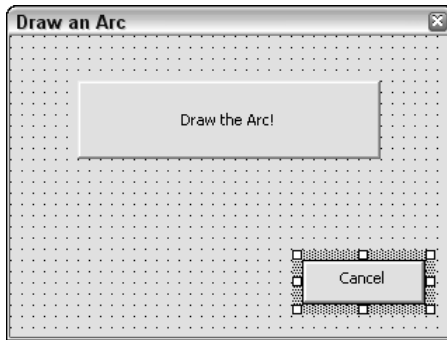

Figure 37-9: A simple dialog box created in VBA.
8. Change the Caption property of the smaller button to Cancel. Change its name property to `cmdCancel`. Your dialog box should look like the one in Figure 37-9.